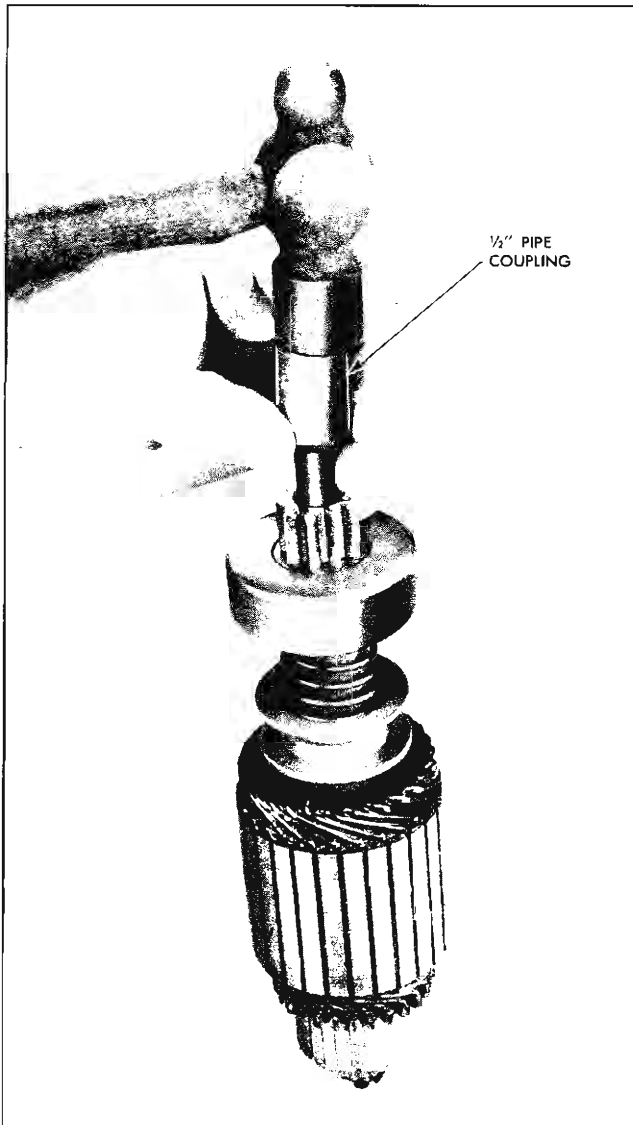

Fig. 11-7 Driving Retainer Off Snap Ring
suitable size can be used if available) onto shaft end of coupling or cylinder butts against edge of retainer (Fig. 11-7). Tap end of coupling with hammer, driving retainer towards armature and off snap ring.
b. Slide clutch assembly onto armature shaft with pinion outward (Fig. 11-7).
c. Slide retainer onto shaft with cupped surface facing end of the shaft (Fig. 11-7).